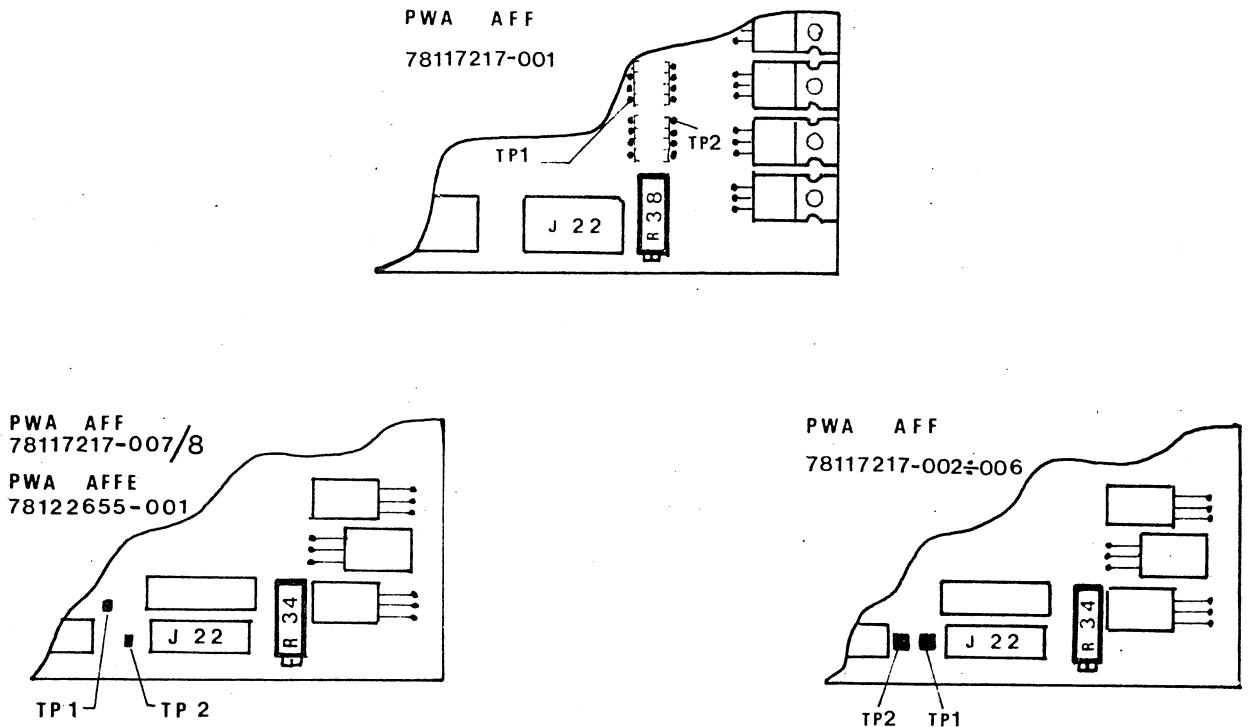

Fig. 8-21
- . Place the voltmeter positive probe on TP 01 and the negative probe on TP 02 (fig. 8.21)